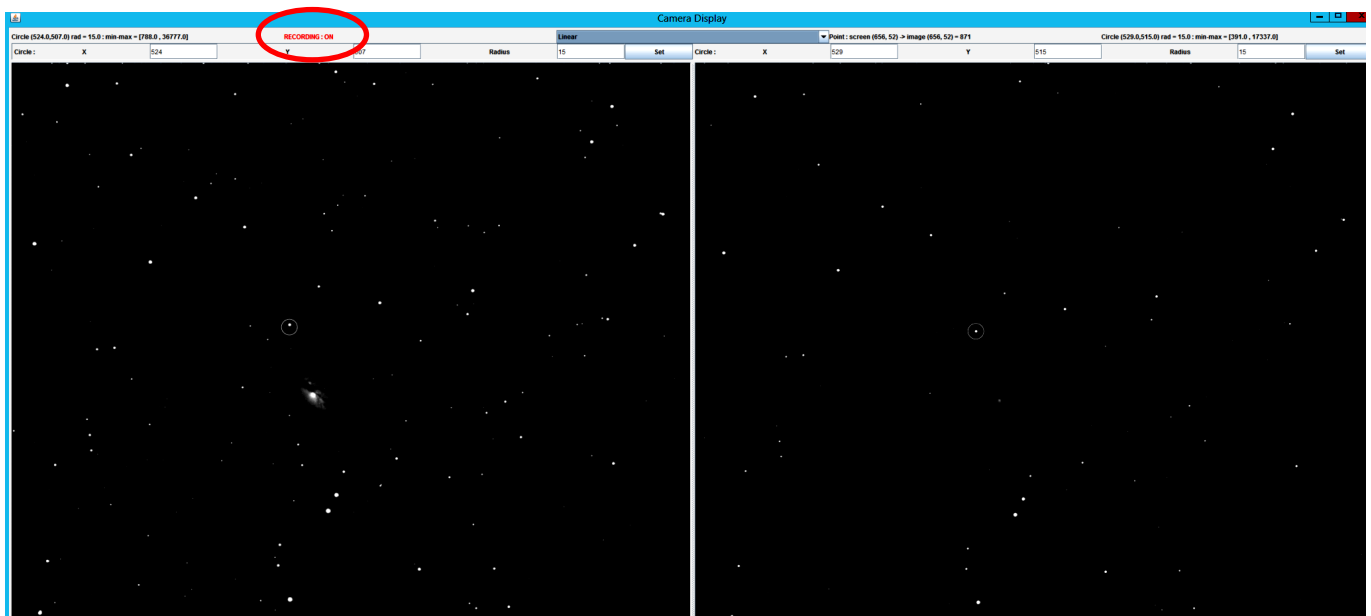

Fig. 6.18. The cameras displays window while recording.
9. Press “START” (Fig. 6.12 E1) to begin the observations. The “RECORDING: ON” indicator appears in the cameras displays window (Fig. 6.18).